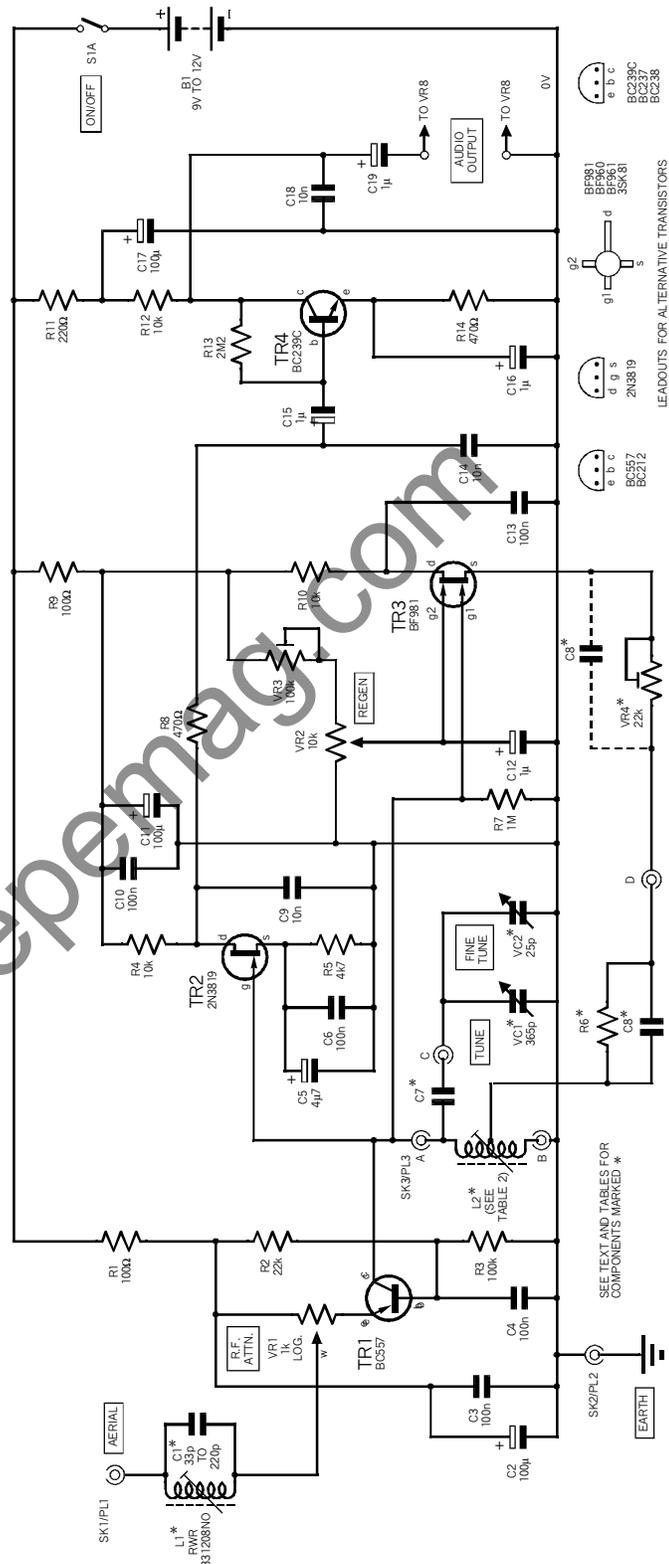

Fig.1. Circuit diagram of the High Performance Regenerative Receiver.
An inductor L1 and capacitor C1 form a parallel tuned circuit, which presents a high impedance at resonance, see Fig.1. When the inductor/capacitor combination is set to the frequency of the offending transmitter it blocks it out.
The circuit diagram of the High Performance Regenerative Receiver is shown in Fig.1. Grounded-base transistor, TR1, acts as a radio frequency (RF) amplifier. Whilst its most important function is to isolate the regenerative stage from the aerial, it also provides a useful amount of gain.